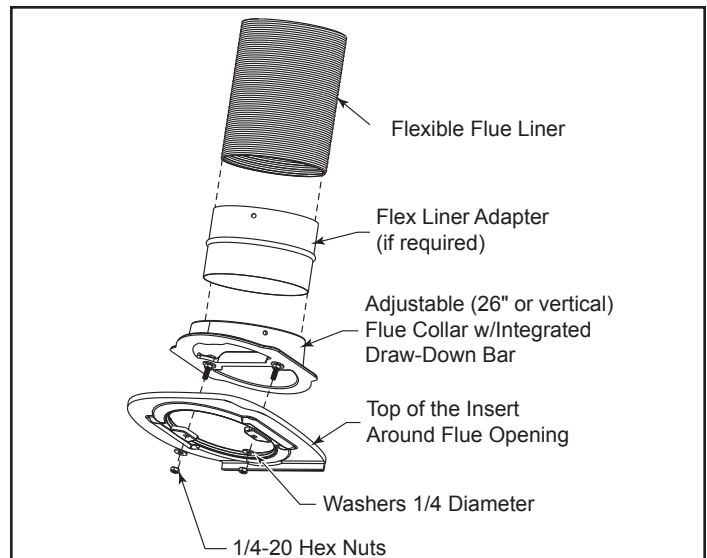

Figure 6 - Components of the venting system.
4. **Install the venting system:** Again, depending on your application it may be easiest to install the connector or stainless steel flue liner in the chimney first. Refer to Figure 6 for the components of the venting system.